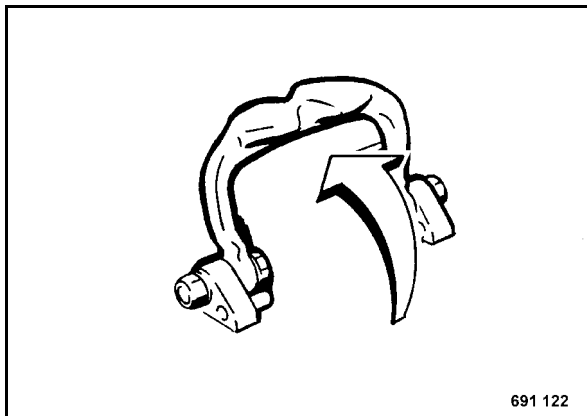

Fig. 42
- Fold the lifting hook (Fig. 42) up.